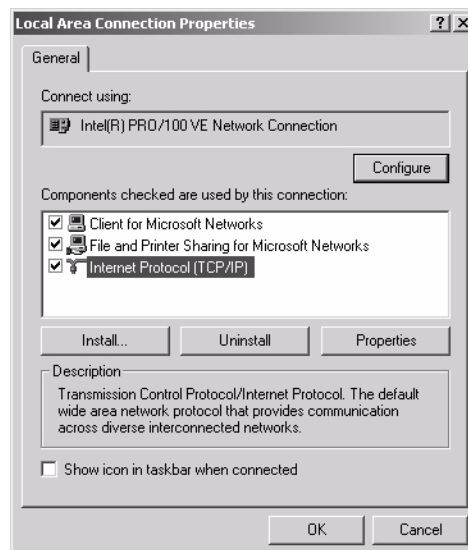

Figure 66: Local Area Connection Properties - Windows 2000
2. Right-click the Local Area Connection icon that represents the terminal network connection and select Properties from the popup menu. The Local Area Connections Properties window appears as shown in Figure 66.